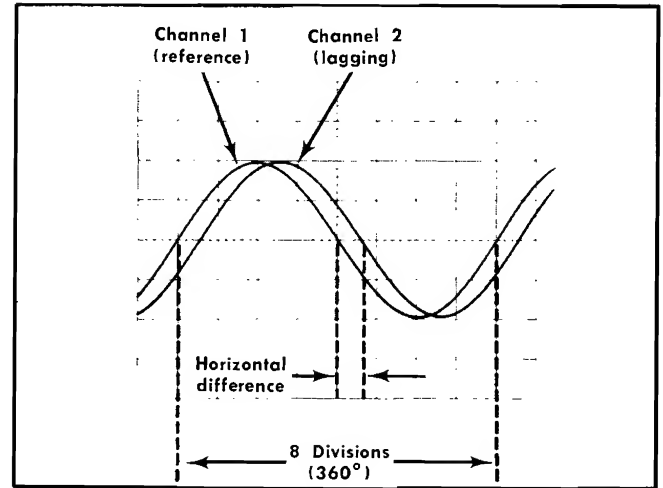
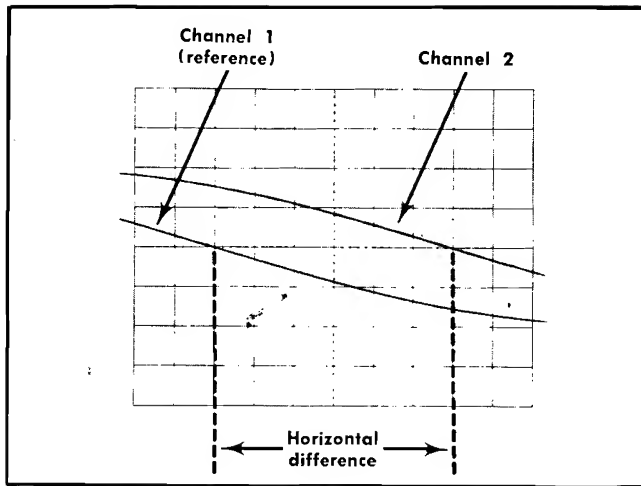

Fig. 2-7. Measuring phase difference.
Fig. 2-8. High-resolution phase-difference measurement with increased sweep rate.
9. Turn the Variable Seconds/Div control until one cycle of the reference signal (Channel 1) occupies exactly eight divisions between the second and tenth vertical lines of the graticule (see Fig. 2-7). Each division of the graticule represents 45° of the cycle ($360^\circ \div 8 \text{ divisions} = 45^\circ/\text{division}$). The sweep rate can be stated in terms of degrees as $45^\circ/\text{division}$.
EXAMPLE: Assume a horizontal difference of 0.6 division with a sweep rate of $45^\circ/\text{division}$ as shown in Fig. 2-7.
EXAMPLE: If the sweep rate were increased 10 times with the magnifier, the magnified sweep rate would be $45^\circ/\text{division} \div 10 = 4.5^\circ/\text{division}$. Fig. 2-8 shows the same signals as used in Fig. 2-7, but with the SWP MAG button pushed in. With a horizontal difference of six divisions, the phase difference is: